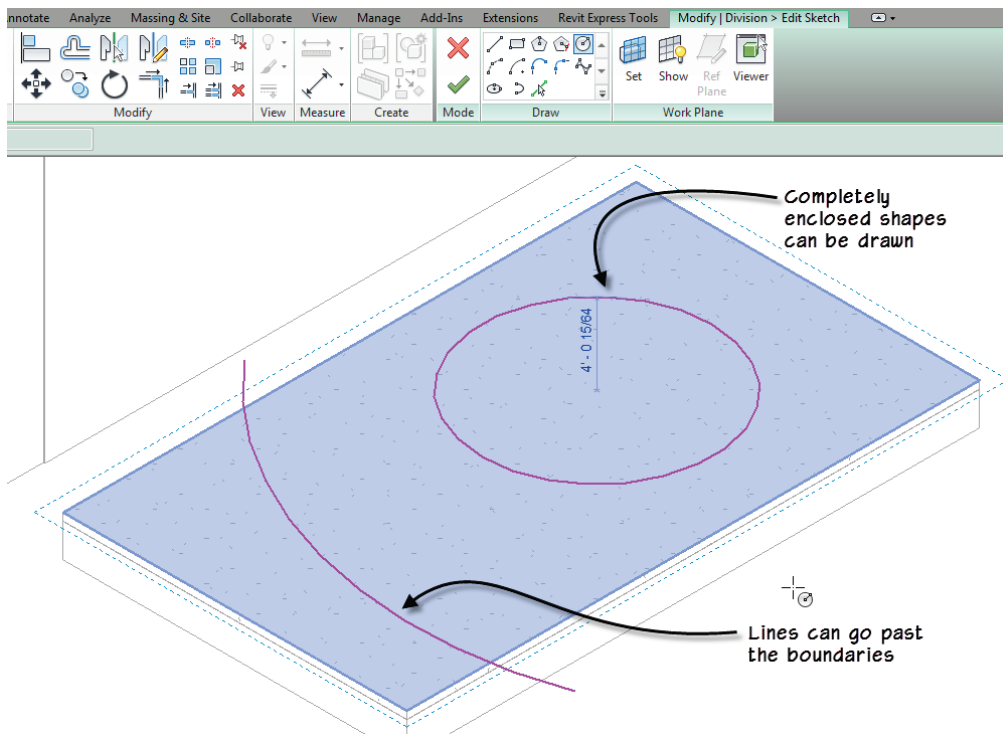

Figure 8
4. Using the sketch tools, you can draw any shape you like. Your goal is to divide the field into two or more smaller areas. You can draw past the edges of the Part, or create completely enclosed shapes (see Figure 8).